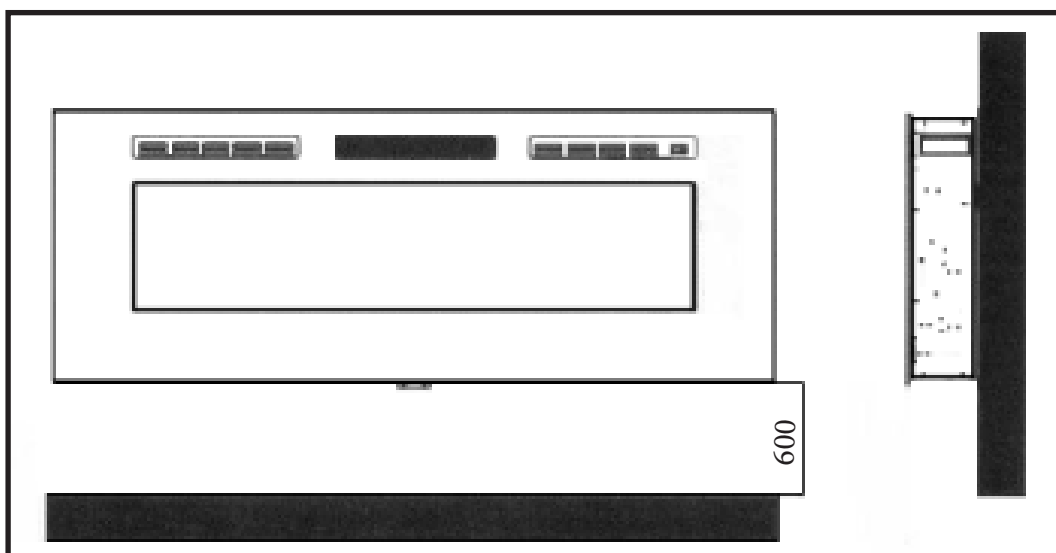

Fig. 1
- Take the glass from the heater first then gently put the heater to the cut hole. This is a two person operation. See Fig. 1